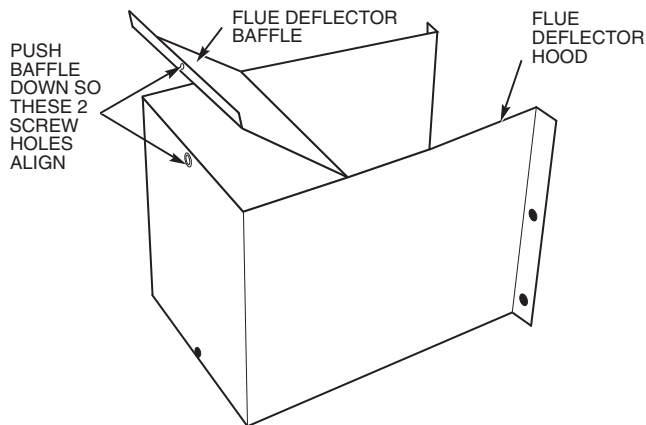
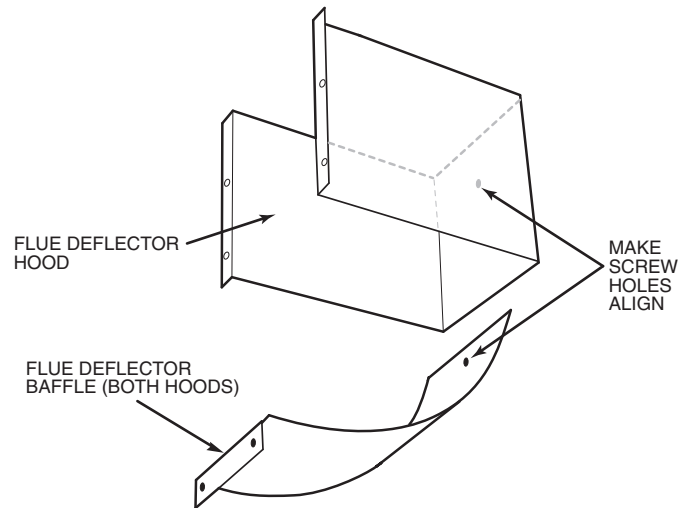

Fig. 64 — Flue Deflector Baffle (V-Type)
Fig. 65 — Flue Deflector Baffle (Curve-Type)
3. Install flue deflector baffle inside flue deflector hood. See Fig. 64 for V-type deflector and Fig. 65 for curve-type deflector. For V-type deflector, screw the baffle and hood together with screw provided. Refer to Table 29 for usage.